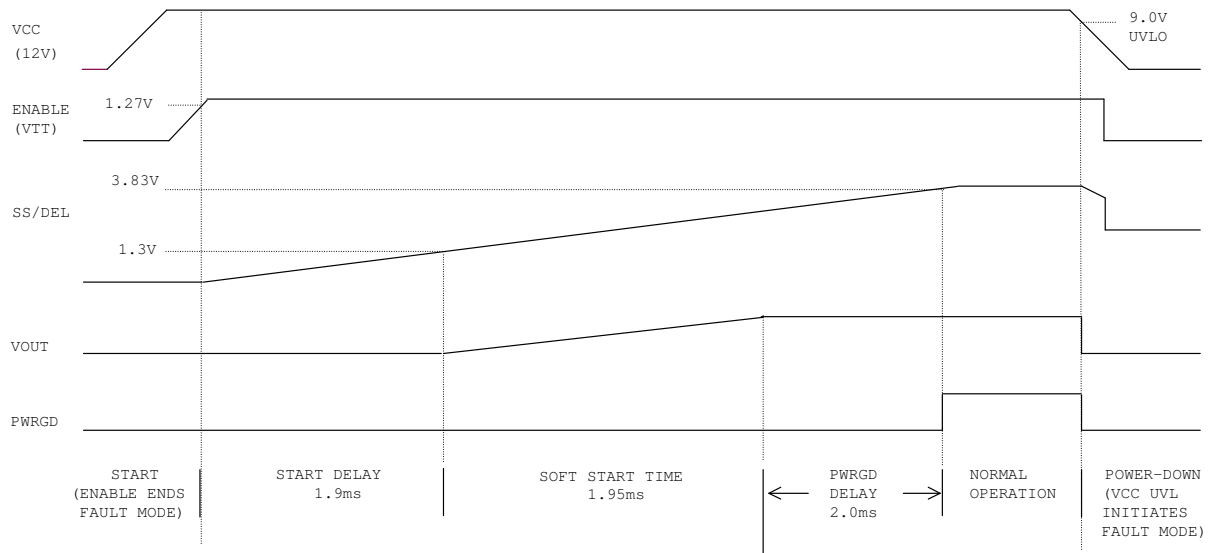

Figure 10 – Start-up Waveforms
The IR3082A has a programmable soft-start function to limit the surge current during the converter start-up. A capacitor connected between the SS/DEL and LGND pins controls soft start as well as over-current protection delay and hiccup mode timing. A charge current of 55 $\mu$ A and discharge current of 5 $\mu$ A control the up slope and down slope of the voltage at the SS/DEL pin respectively. Soft start-up waveforms are shown in Figure 10.
The SS/DEL pin voltage controls the slew rate of the converter output voltage, as shown in Figure 10. After the ENABLE pin voltage rises above 1.27V, there is a soft-start delay time  $t_{SSDEL}$ , after which the error amplifier output is released to allow the soft start. The soft start time  $t_{ss}$  represents the time during which the output voltage rises from zero to  $V_o$ .  $t_{ss}$  can be programmed by an external capacitor, which is determined by Equation (1).